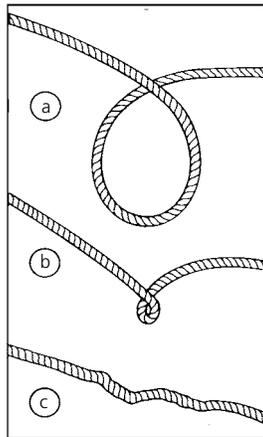

Figure 10
5. **PREVENT KINKS BEFORE THEY OCCUR** (See Figure 10).